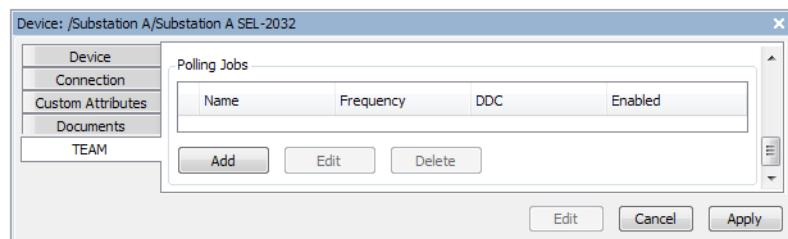

Figure 37 Add TEAM Polling Job
- Step 9. Return to the **Substation A SEL-2032** window and select the **TEAM** tab, as shown in *Figure 37*. Select **Edit** and then the **Add** button, also shown in *Figure 37*, to start the **Polling Job Wizard**.